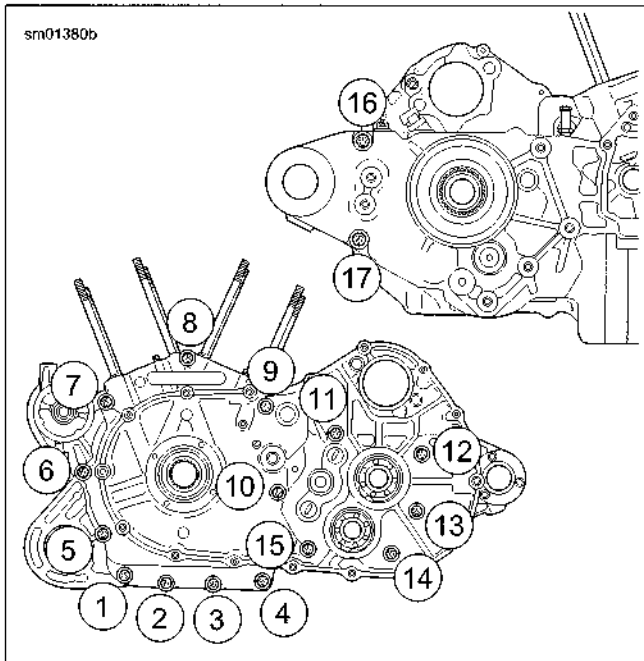

Figure 5-71. Crankcase Fastener Torque Sequence
- See Figure 5-71. In sequence, tighten to 15-19 ft-lbs (20.3-25.8 Nm).